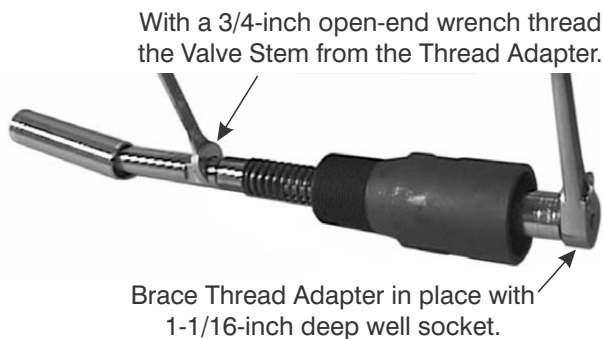

Figure 8-26. Remove Thread Adapter from the Valve Stem.
5. Slide the assembled Valve Stem (5), Valve Spring (6) and Valve (1) from the End Cap (8) as shown in Figure 8-26.